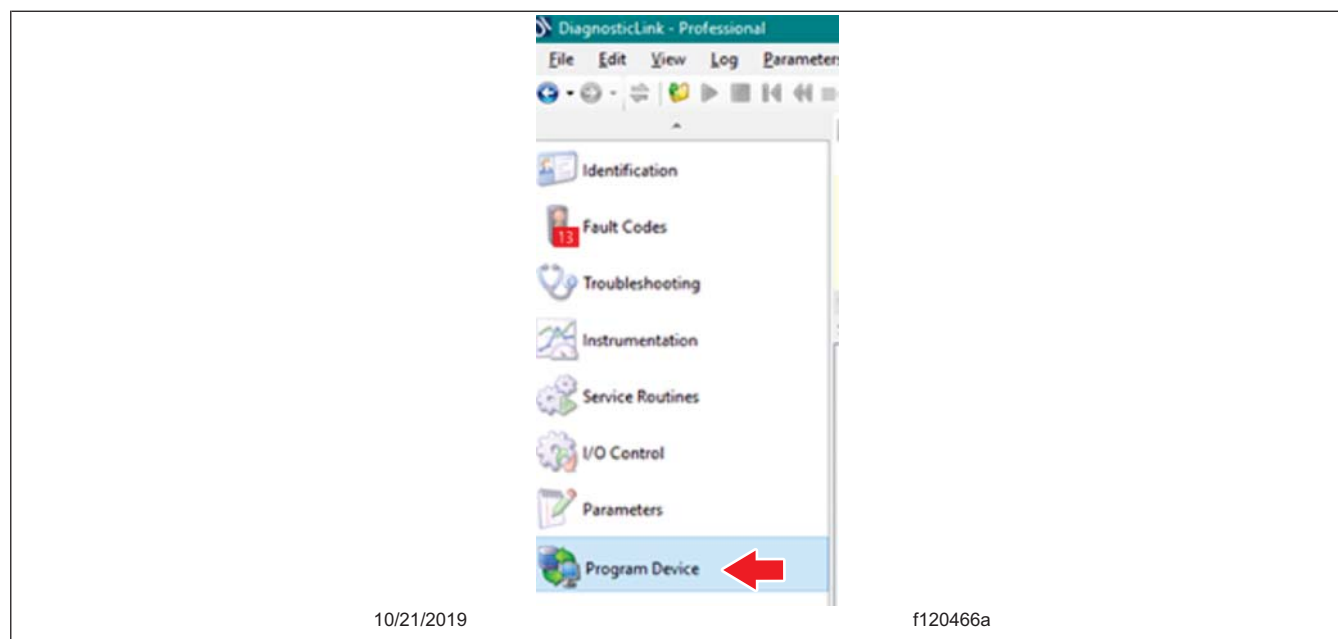

Fig. 2, Program Device Screen
4. Select "Program Device." See Fig. 2.